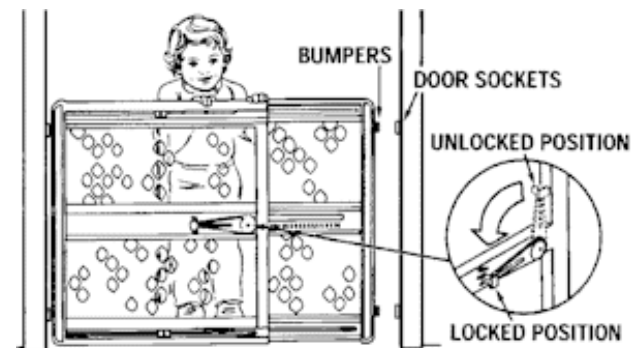

Figure 6
1. With locking handle in unlocked position, and on side opposite of area accessible to child, place bumpers on side of gate into door sockets on one side of doorway (see figure 6).